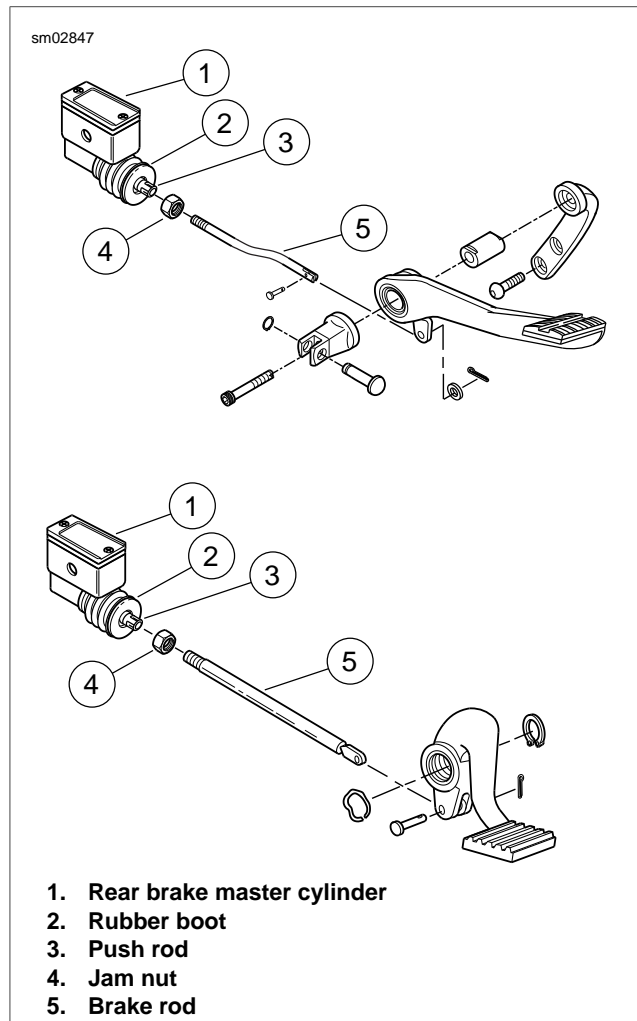

Figure 1-8. Rear Brake Pedal Height (Top: FXDWG models, Bottom: All models but FXDWG)
1. See Figure 1-8. Brake rod (5) is threaded into push rod (3) in rear brake master cylinder (1), and locked in place with jam nut (4). Loosen jam nut.